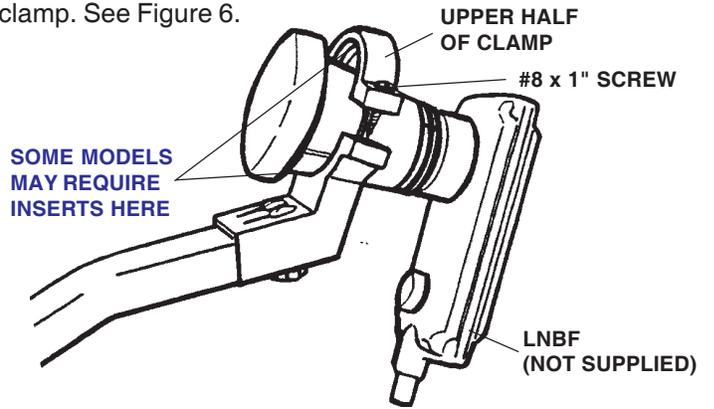

FIGURE 6
STEP 6: Insert LNBF and attach upper half of feed clamp. See Figure 6.